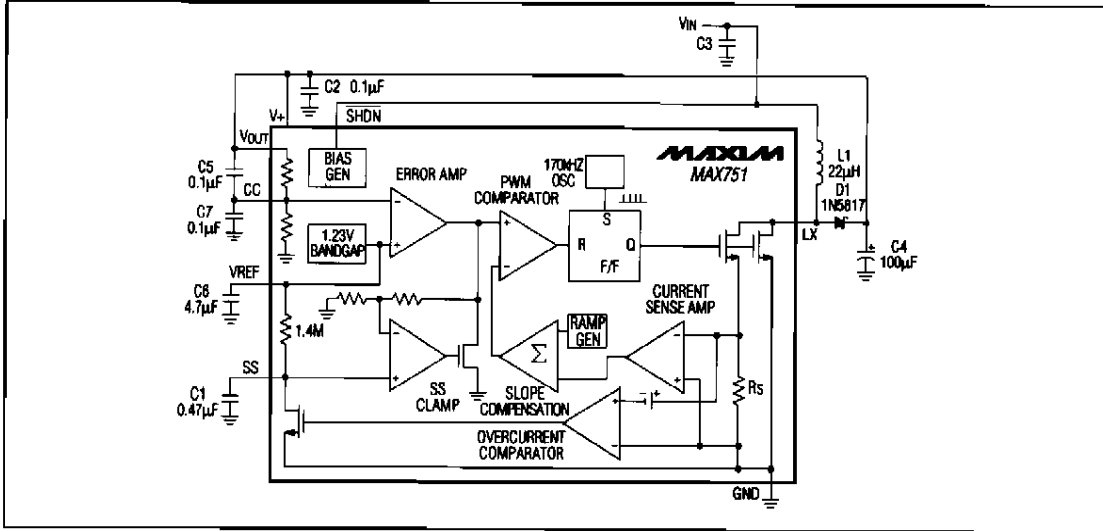

Figure 1. Detailed Block Diagram with External Components, Bootstrapped Mode
(Circuit of Figure 1, V_{IN} = +3V, I_{LOAD} = 0mA, T_A = T_{MIN} to T_{MAX}, typical values are at T_A = +25°C, unless otherwise noted.)
(Circuit of Figure 1 in bootstrapped mode, L1 = 22 μ H, T_A = +25°C, unless otherwise noted.)
The controller consists of two feedback loops: an inner (current) loop that monitors the switch current through the current-sense resistor (RS) and amplifier, and an outer (voltage) loop that monitors the output voltage with an error amplifier (Figure 1). The inner loop performs cycle-by-cycle current limiting, truncating the power transistor on time when the switch current reaches a threshold determined by the outer loop. For example, a sagging output voltage produces an error signal that raises the threshold at the error amp output. This allows the inductor current (which generates the current-sense amp output voltage) to increase, resulting in more energy stored and transferred during each cycle.
The Soft-Start (SS) pin limits power-up current, allowing proper start-up with a load on the output. On power-up, the MAX751 uses the maximum switch duty cycle to draw excessive current to charge the output filter capacitor, and supply current to the load. In this case, the device may stall and the output voltage will not rise to 5V. A capacitor (between 0.047µF and 5µF) is required on SS to ensure proper start-up. The larger the capacitor, the slower the internal current-limit threshold is raised, allowing more time for start-up. As the voltage on the SS pin increases, the voltage at the SS clamp output increases, which in turn increases the current-limit threshold (Figure 1).
Use a Schottky diode with a continuous-current rating of at least 500mA for full-load (≥ 200 mA) operation. The 1N5817 is a good choice. The two compensation capacitor values at the CC input are critical because they have been selected to provide the best transient response. The input capacitor (C3 in Figures 1, 2, and 4) may be omitted if the power supply impedance is very low. Otherwise, up to 100 μ F may be necessary.
The power-up SS charge rate is determined by the time constant formed by the SS capacitor and the internal $1.4\text{M}\Omega \pm 25\%$ resistor between VREF and SS (Figure 1).